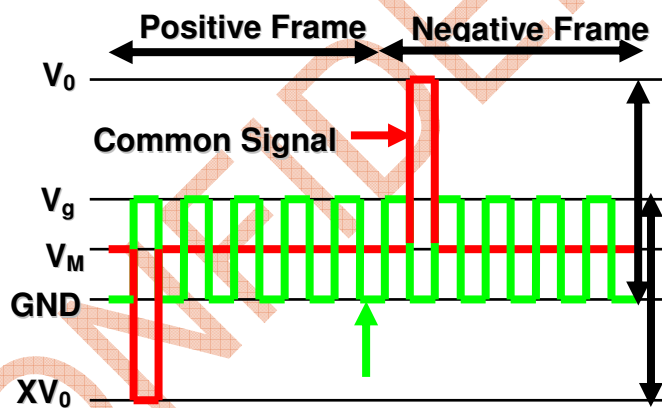

Figure 1. 2-frame AC driver waveforms with internal timing signal
This circuit generates some signals to be used for displaying LCD. The display clock, CL generated by oscillation clock, generates a clock to the line counter and a latch signal to the display data latch. The line address of on-chip RAM is generated in synchronization with the display clock (CL) and the 256-bit display data is latched by the display data latch circuit in synchronization with the display clock. The display data which is read to the LCD driver is completely independent of the access to the display data RAM from the microprocessor. The LCD AC signal, M is generated from the display clock. 2-frame AC driver waveforms with internal timing signal are shown in figure 1. It can generate n-line reversal alternating drive waveforms by setting data (NW-1) to the n-line reversal drive register.